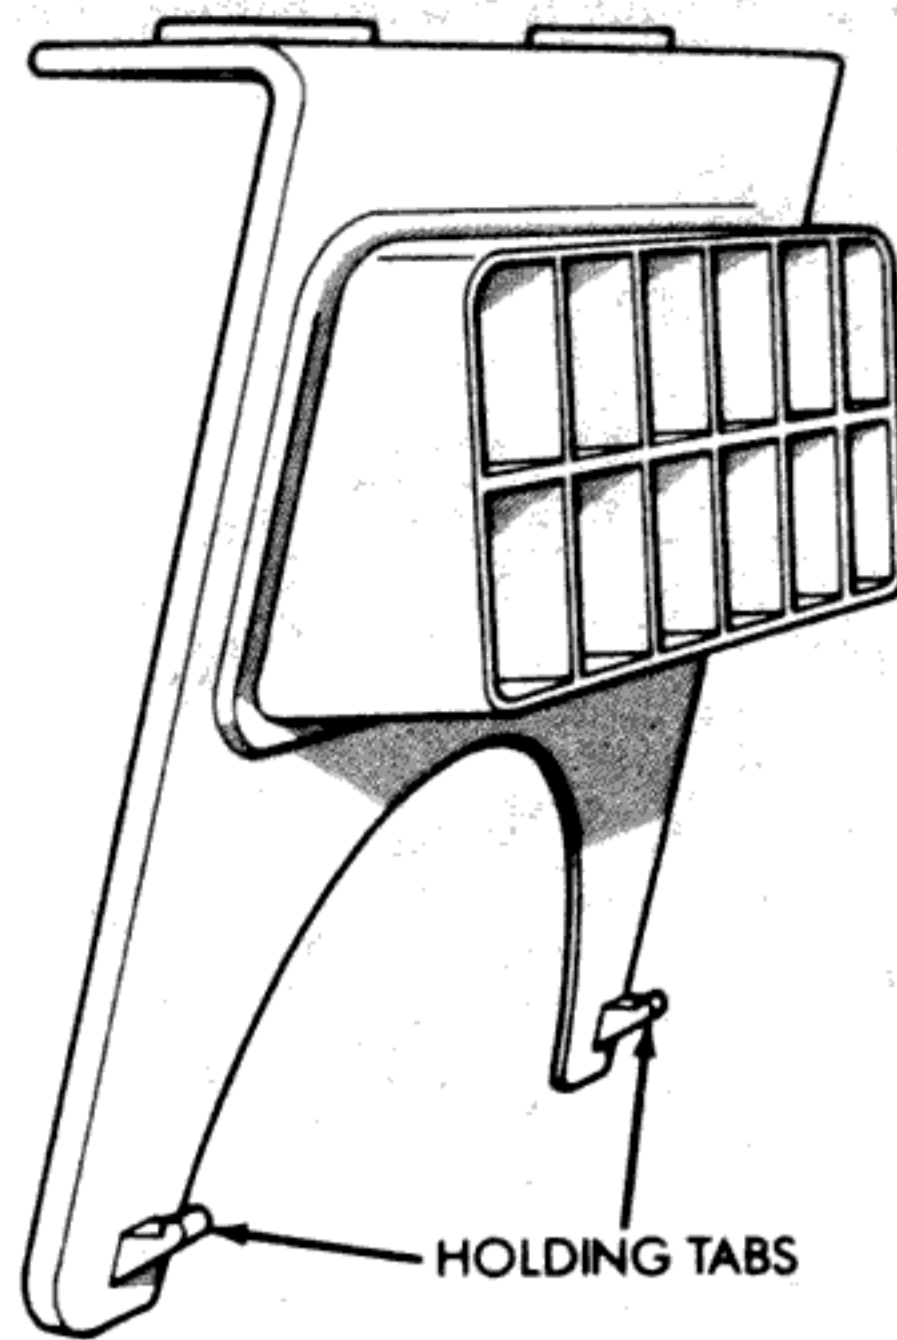
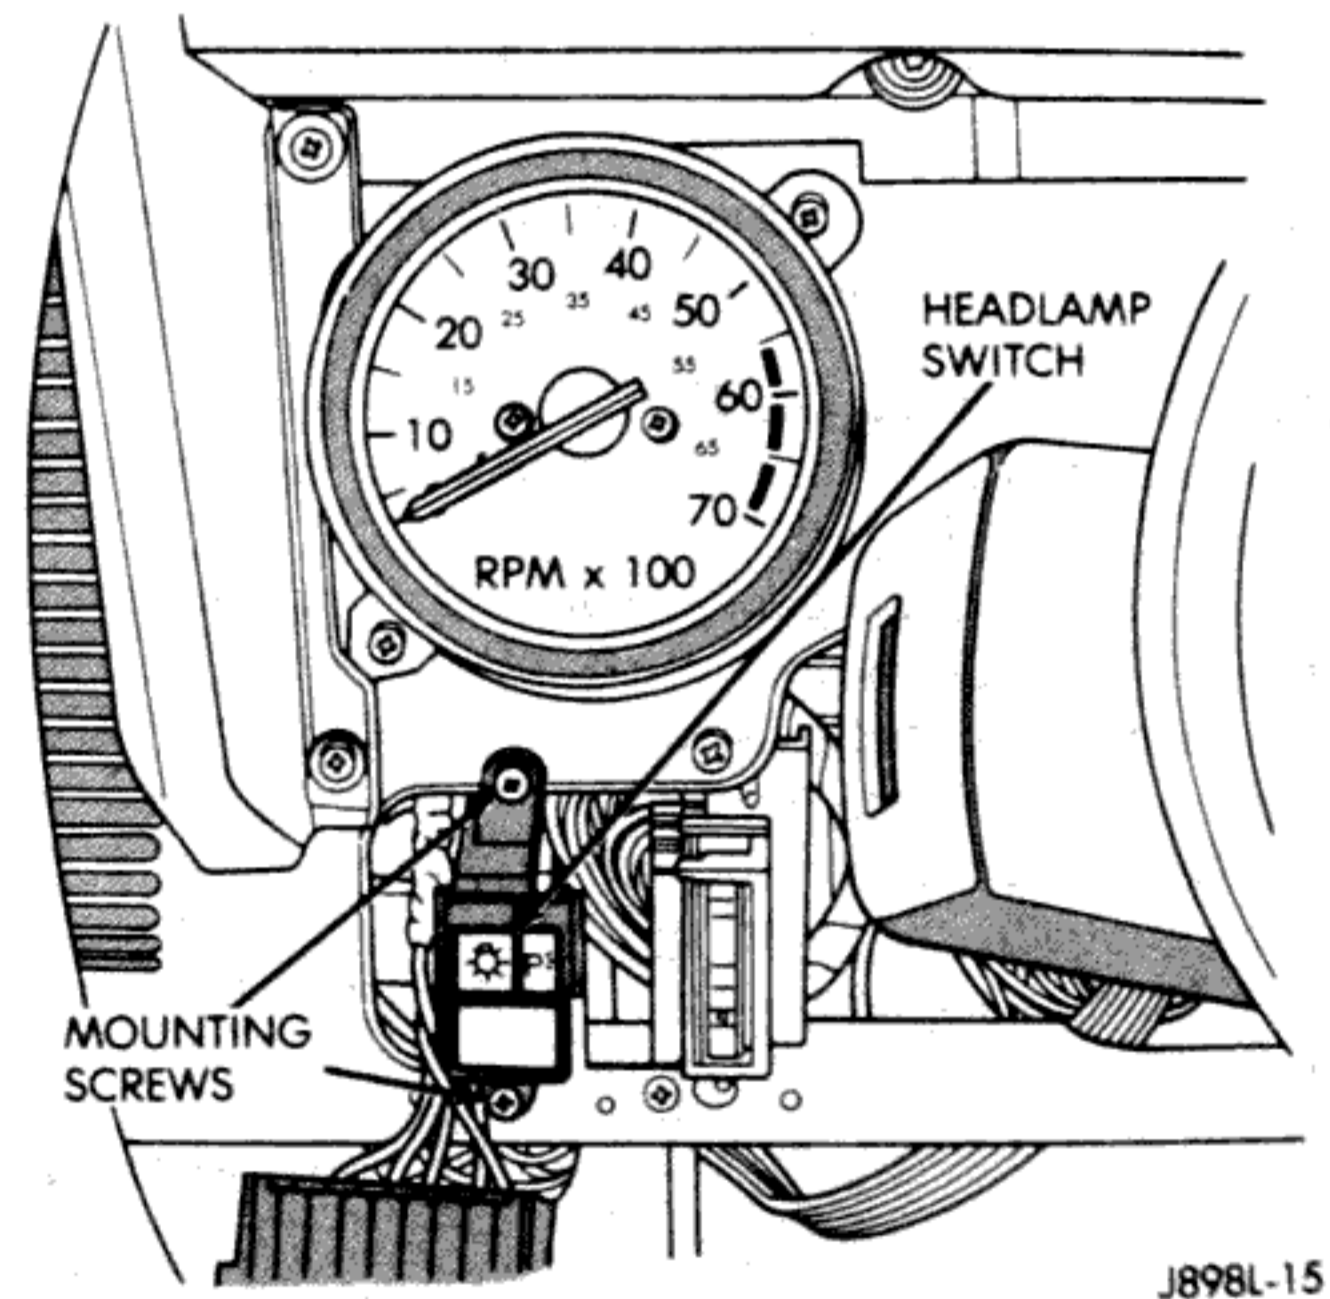

Fig. 23 Indicator Panel Holding Tabs
Fig. 24 Headlamp/Panel Dimmer Switch Remove/Install
- (3) Slide bezel toward steering wheel.
- (4) Apply upward force to the bezel and downward force to the indicator panel. This will release the indicator panel holding tabs (Fig. 23).
- (5) Remove the bezel from the instrument panel.
- (6) Remove the headlamp or panel dimmer switch retaining screws (Fig. 24).
- (7) Disconnect the headlamp/panel dimmer switch wire harness connector.
- (8) Remove the headlamp/panel dimmer switch from the instrument panel cavity.
- (9) Reverse removal procedures to install.